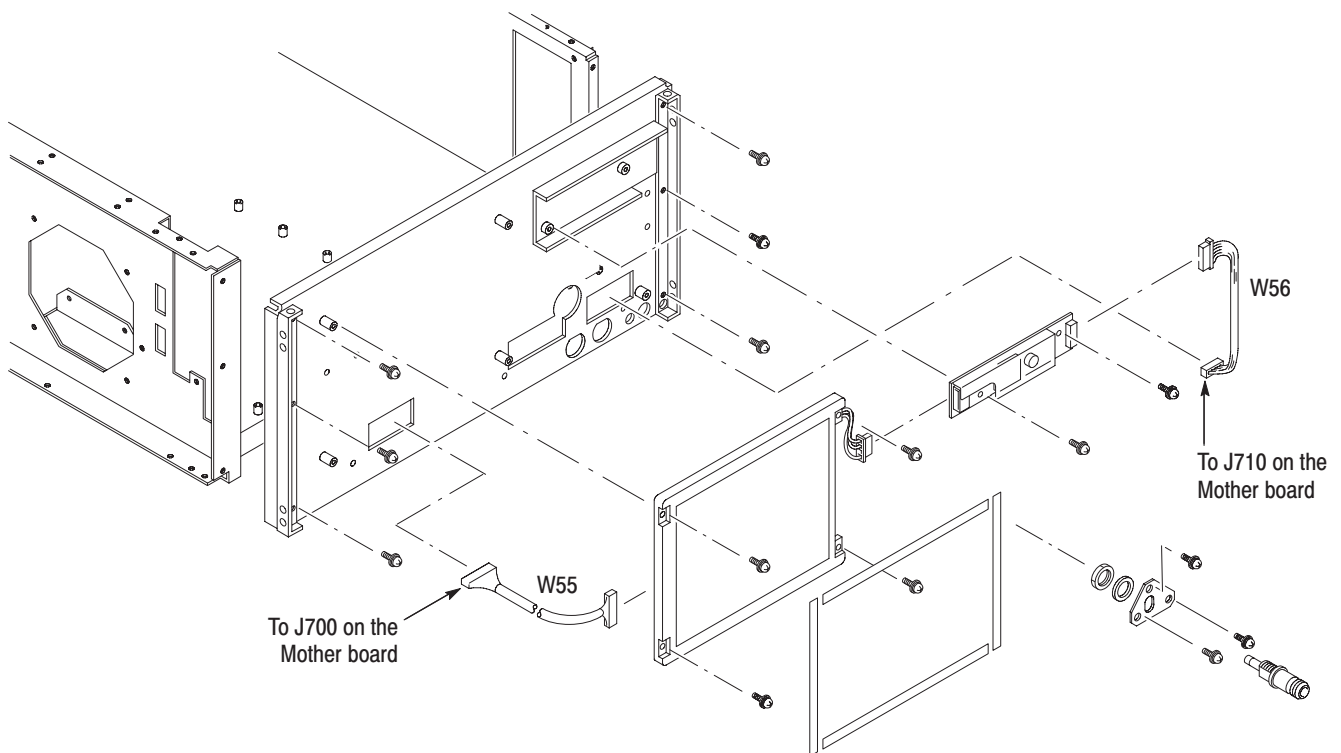

Figure 6–28: LCD display removal
- b. Locate the LCD display in the locator diagram *Front panel modules*, Figure 6–9, page 6–19.
3. *Remove the inverter:* See Figure 6–28.
4. *Remove the LCD display:* See Figure 6–28.